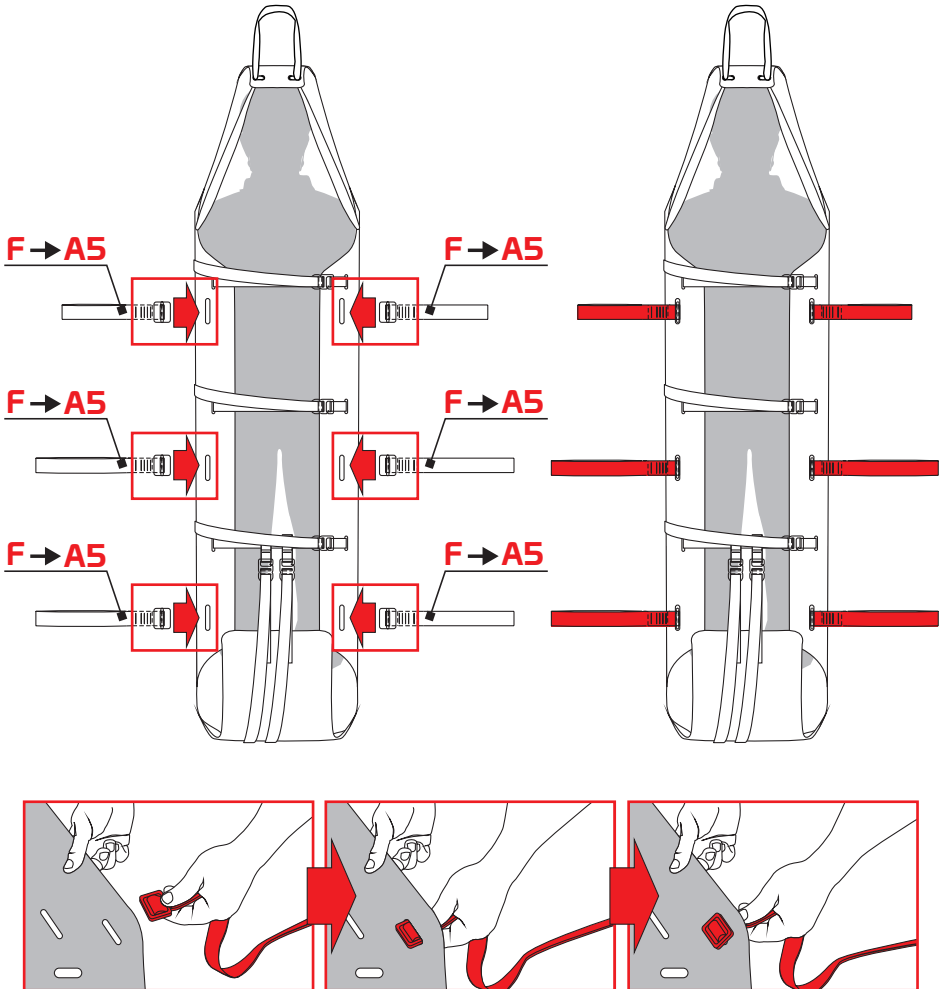

Fig.14
a) manual transport: insert only the side handles (F) in the eyelets A5 on the support surface (fig. 14) - Please note: we suggest inserting the shortest couple of handles in the place near the torso of the patient, in order to keep the head higher than the feet.